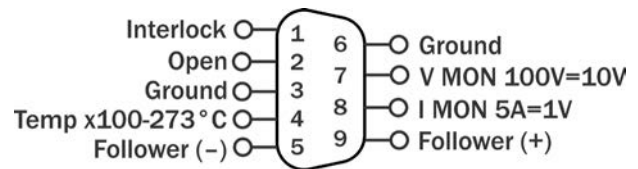

Figure 6.1 – Remote Status and Control Pin-outs on 9-pin D-Sub Connectors
**Figure 6.1** maps the pins used for these applications. NOTE: Both 9-pin D-Sub connectors have the same pin-outs and either port can be used for remote applications.